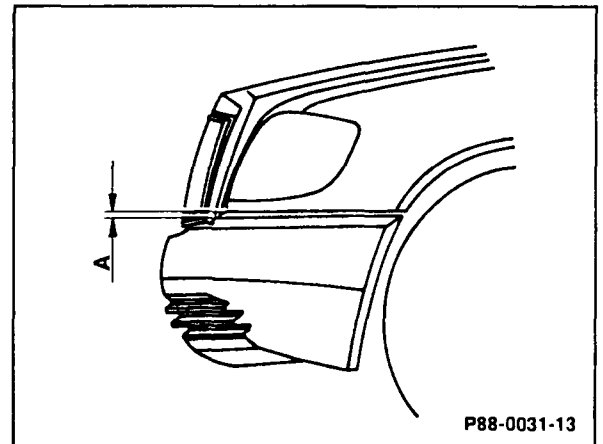

Figure 4
12. Inspect alignment of assembly and adjust if necessary ( $A = 5\text{ mm}$ , Figure 4).